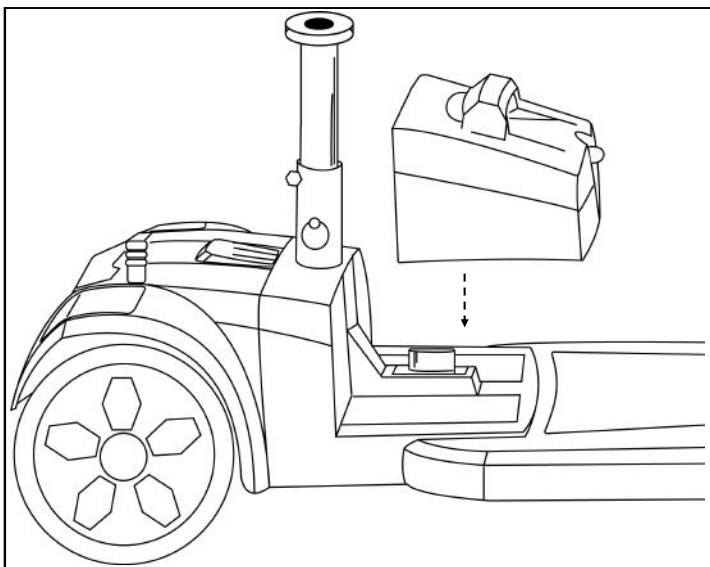

Figure 22. Battery Pack Installation
3. Gently lower the battery pack onto the frame. See figure 22.